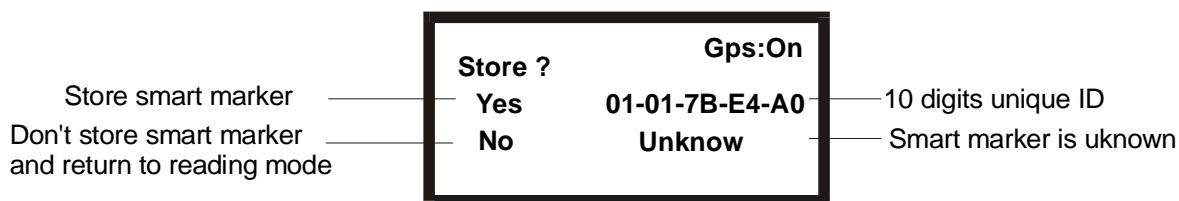

Fig. 17
3. If device recognizes smart marker, you can store smart marker together with 10 digits unique identification number ID to Smart Marker Locator memory (Fig. 17).